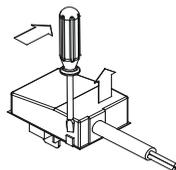

Fig.18
- open the terminal board **Fig. 18**;